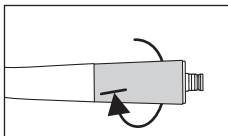

Fig. 39
- ➍ Firmly tighten the taper ring (Fig. 39).